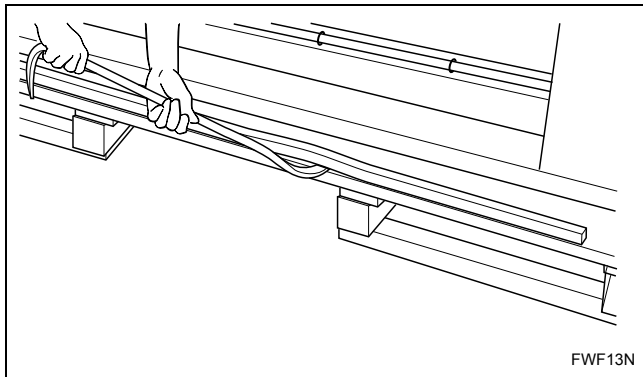

Figure 5
3. Use a pry bar to remove the wood stop from the skid. Refer to *Figure 5*.